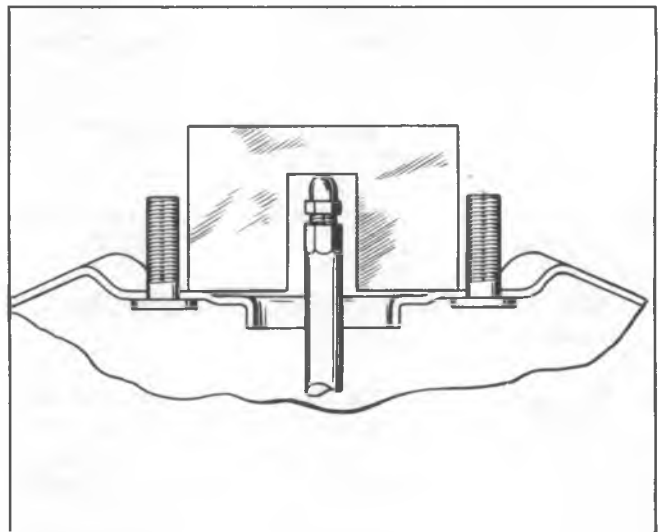

Fig. 11A—Adjustment of Push Rod
37. Place Tool J-7723-01 over the push rod so that it fits between the studs on front housing. Gauge should be parallel to studs resting on surface of housing. The cutout portion of the gauge should never be lower than the end of the piston rod, and the gap should never be more than .010 inch (fig. 11A).